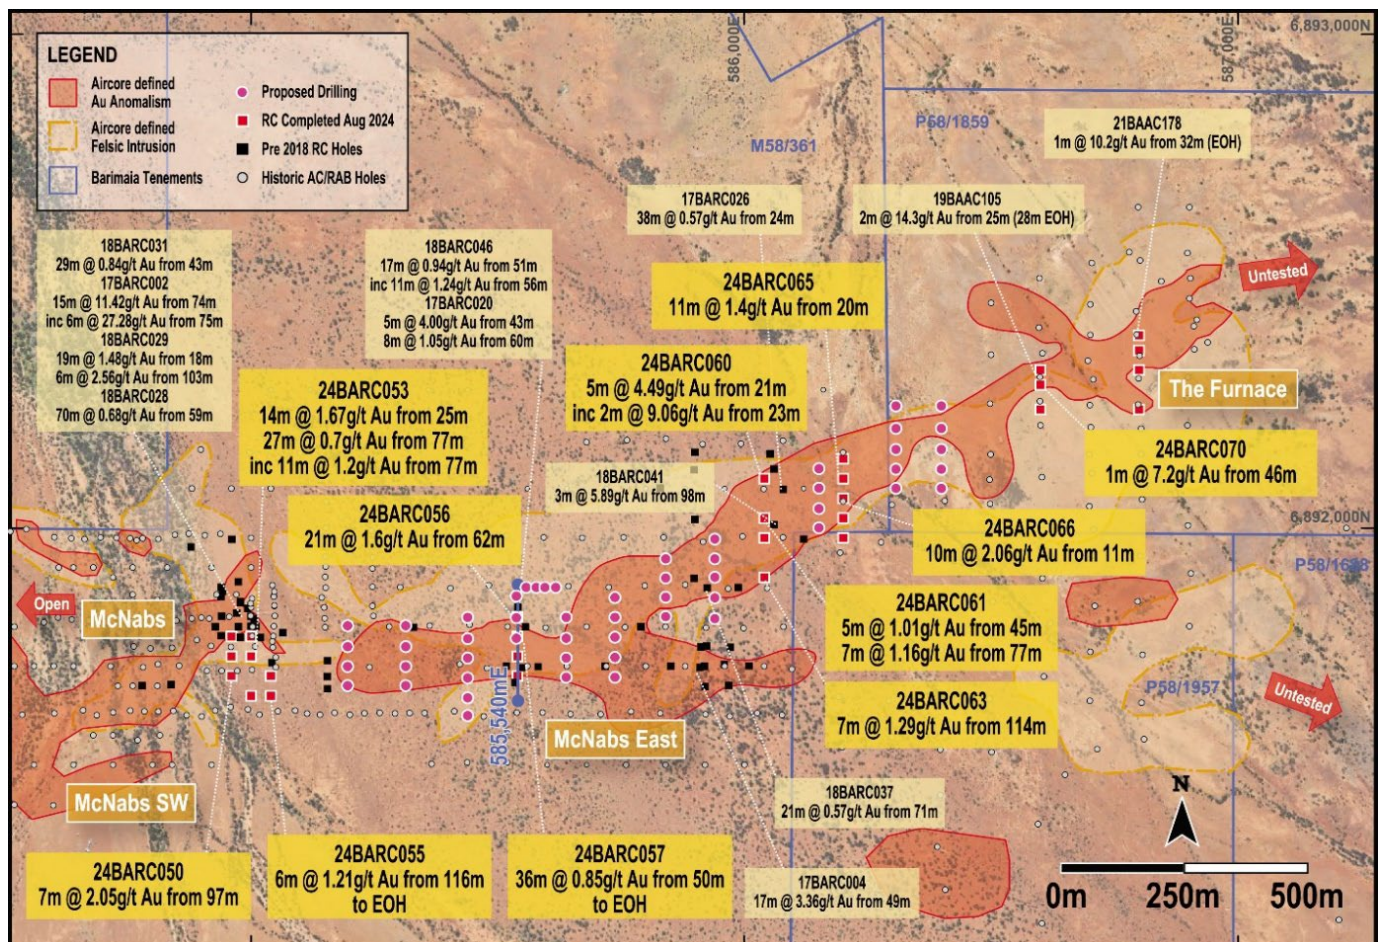

Figure 3. Outline of proposed drilling to be completed between October and December 2024
- over 1km of strike centred on 585,540E (See Figure 3) as a combination of infill and extensional drilling; and